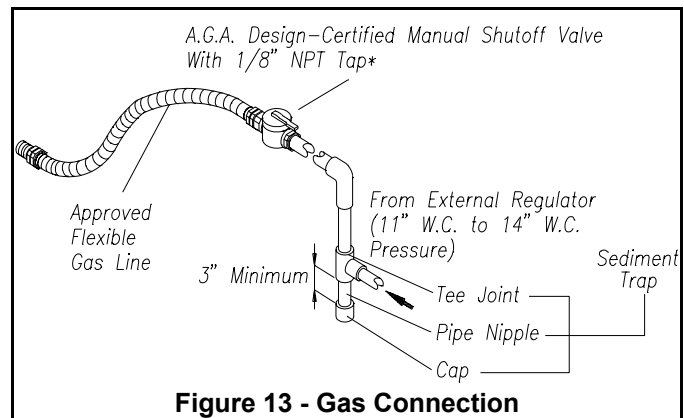

Figure 13 - Gas Connection
1. Construct framing using dimensions, shown in figures 13 through 15, depending on your particular installation.
Installation must include a manual shutoff valve, union, and plugged 1/8" NPT tap. Locate NPT tap within reach for test gauge hook up. NPT tap must be upstream from fireplace (see figure 13).
Install sediment trap in supply line as shown in figure 13.
2. Prepare to route incoming gas line into firebox (**Figure 13**).